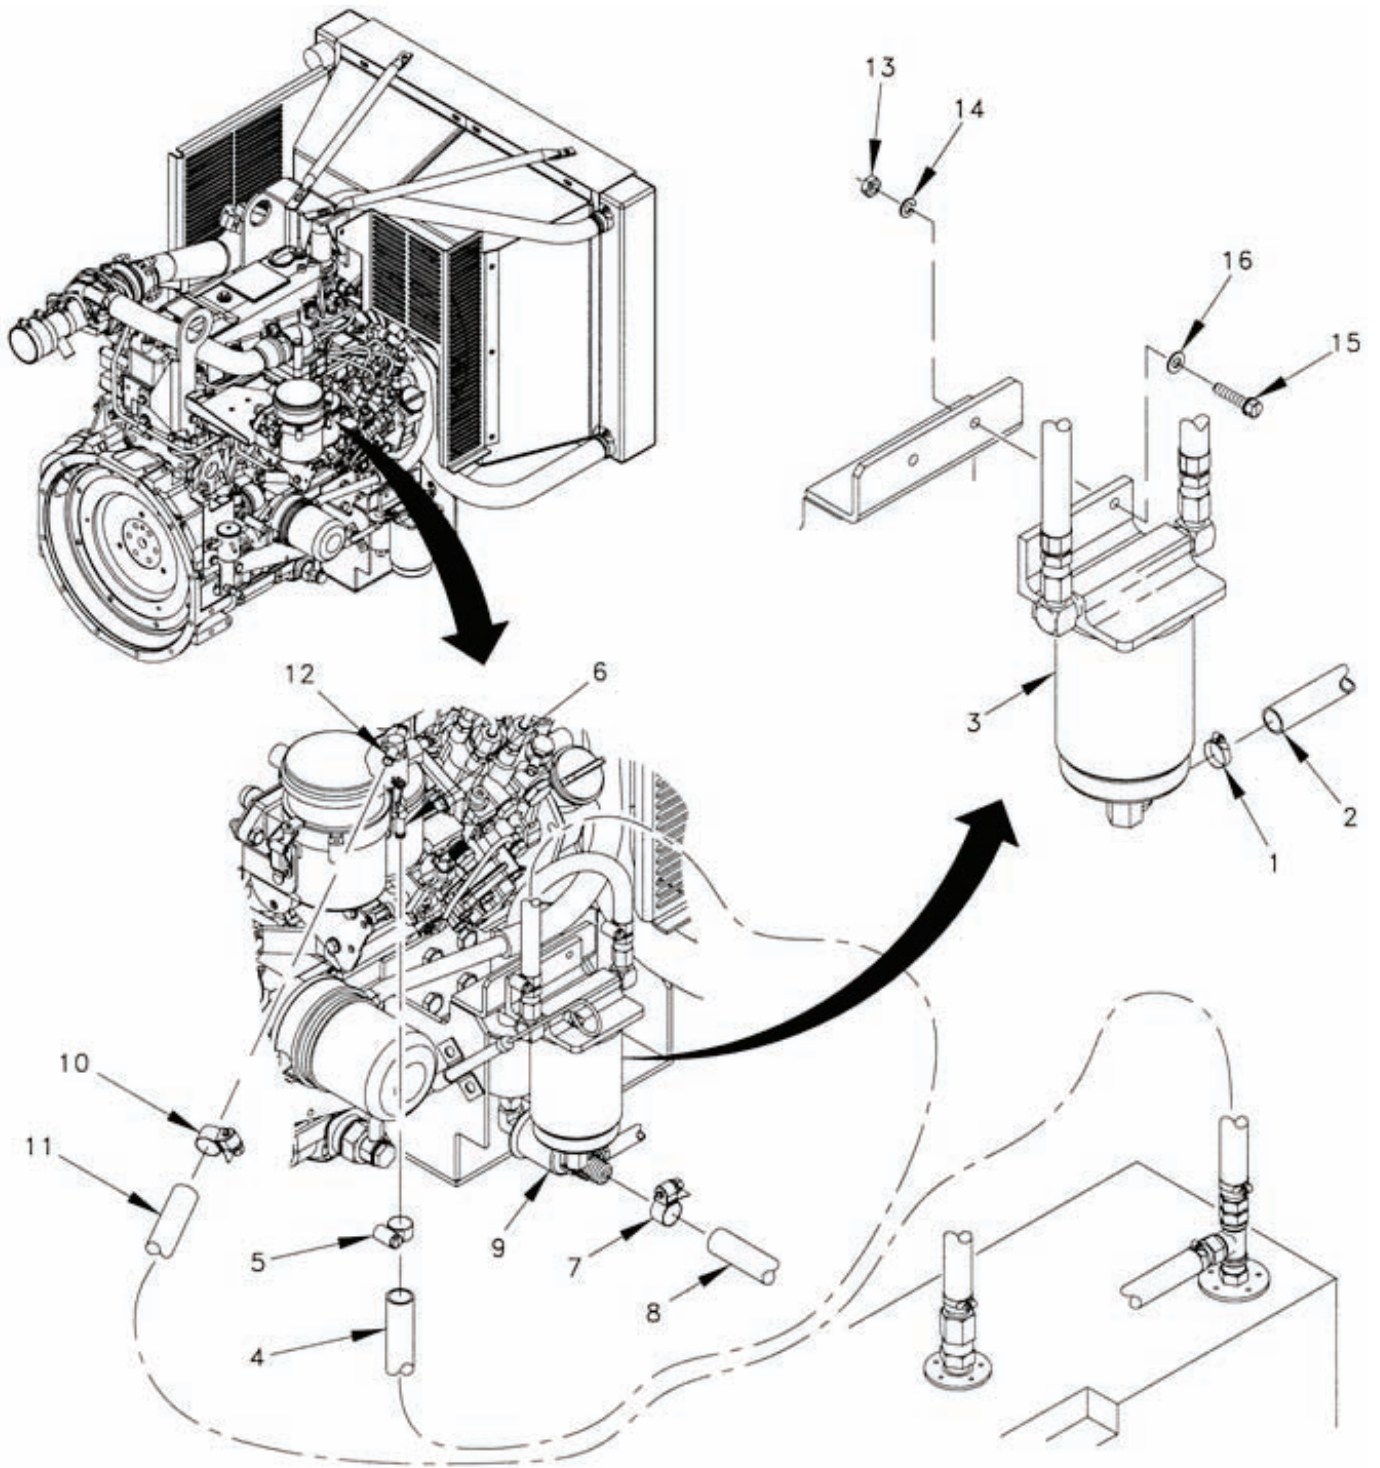
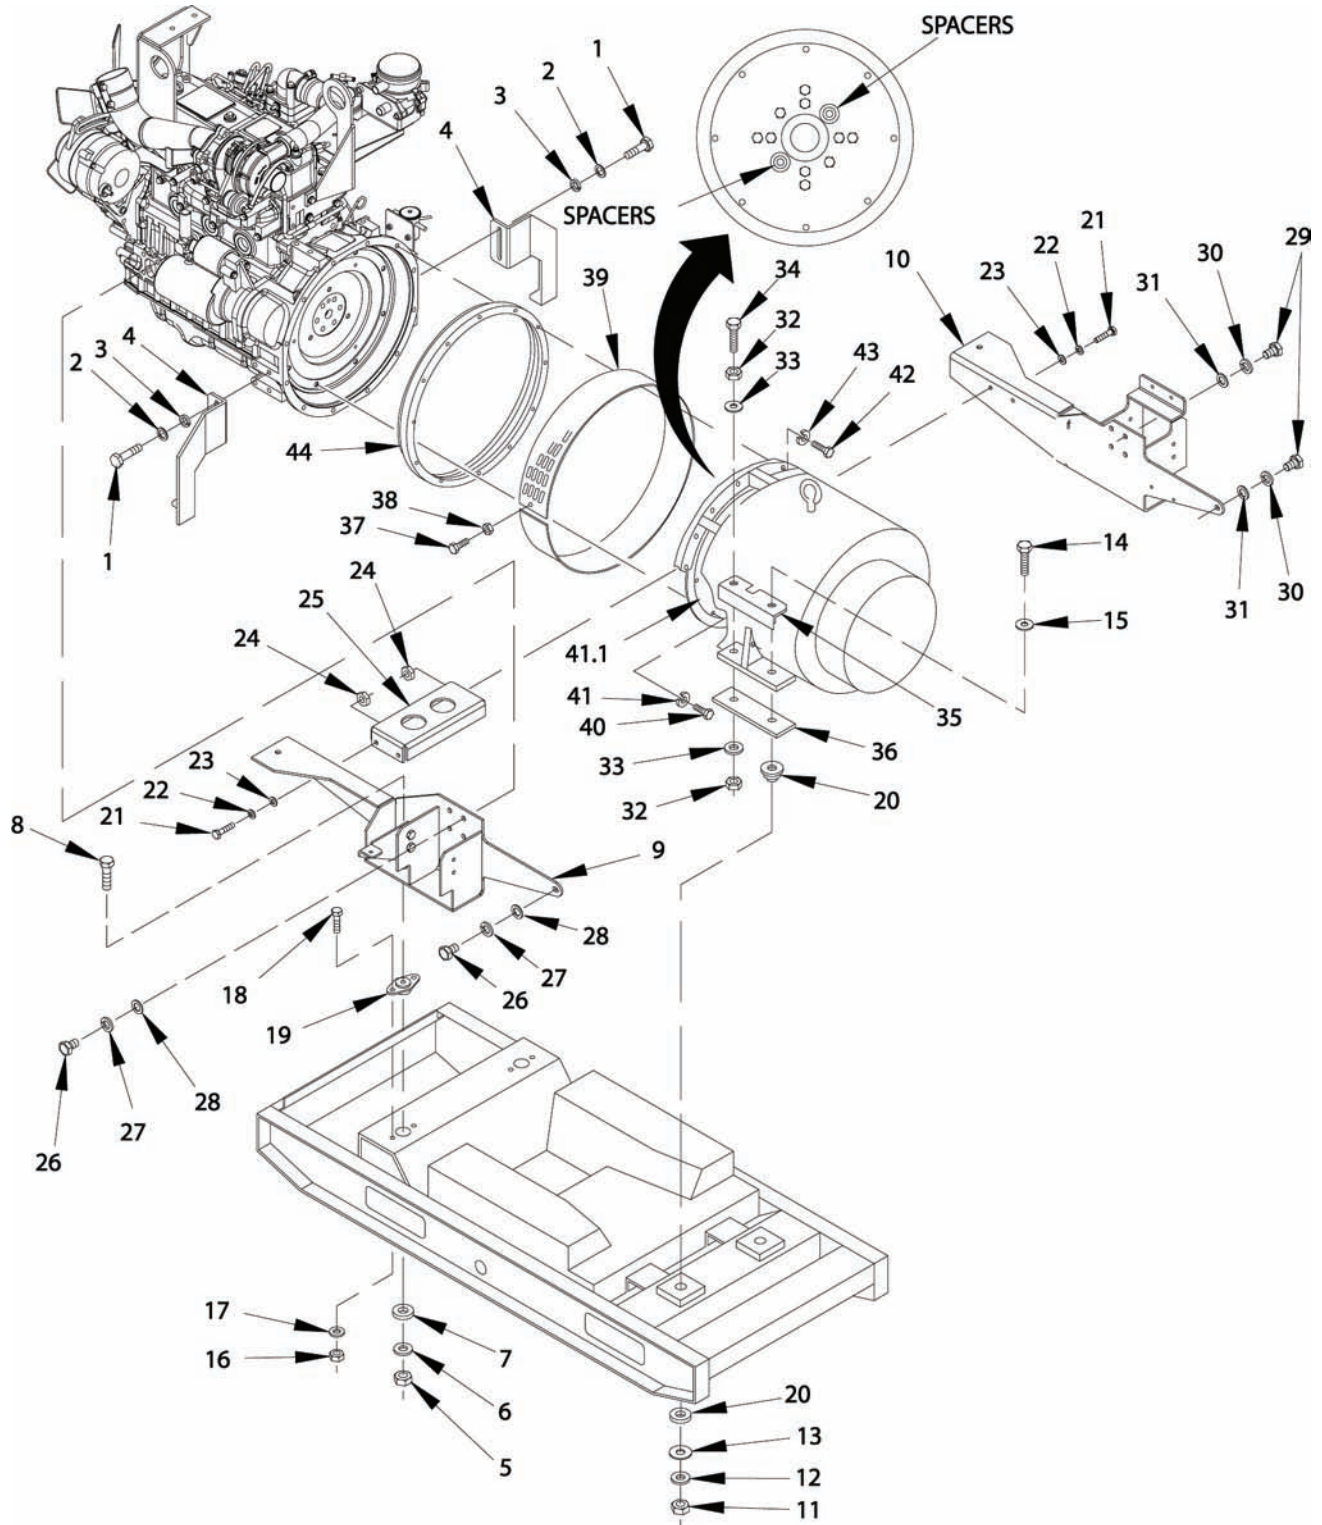

Figure 3-2. Engine Fuel Lines – MEP-804B/MEP-814B.
Figure 3-3. Engine and Generator Assembly – MEP-804B/MEP-814B.
- j. Remove clamp (1, Figure 3-2) and disconnect hose (2) from bottom of fuel/water separator (3).
- k. Remove clamp (5) and disconnect hose (4) from fuel filter (6).
- l. Remove clamp (7) and disconnect hose (8) from fuel filter (9) on fuel pump.
- m. Remove clamp (10) and disconnect hose (11) from fuel return (12) to tank.
- n. Remove bolts (1, Figure 3-3), lock washers (2), washers (3), and rear engine support brackets (4). Discard lock washers (2).
- a. Install right engine support bracket (10, Figure 3-3) on engine with bolts (29), new lock washers (30), and washers (31).
- b. Install left engine support bracket (9) on engine with bolts (26), new lock washers (27), and washers (28).
- c. Install crossmember (25) with bolts (21), new lock washers (22), washers (23), and nuts (24).
- d. Connect hose (4, Figure 3-2) from fuel/water separator (3) to fuel filter (6) and secure with clamp (5).
- e. Install generator mount angles (35, Figure 3-3) and plates (36) with bolts (34), washers (33), and nuts (32). Adjust bolts to where they will not make contact when engine/generator is installed onto skid base. Tighten nuts.
- f. Install engine shock mounts (19) to skid base with nuts (16), washers (17), and bolts (18).
- g. Install shock mounts (20) to skid base.
- j. Install bolts (14), Belleville washers (15), snubbing washers (13), washers (12), and nuts (11) to secure generator to skid base. Torque bolts to 210 ft-lbs (285 Nm).
- k. Install bolts (8), snubbing washers (7), washers (6), and nuts (5) to secure engine to skid base. Torque bolts to 75 ft-lbs (102 Nm).
- l. Install rear engine support brackets (4) with bolts (1), new lock washers (2), and washers (3).
- n. Install hose (8, Figure 3-2) to fuel filter (9) on fuel pump and secure with clamp (7).
- o. Install hose (11) to fuel return (12) (to tank) and secure with clamp (10).
- p. Install hose (2) to bottom of fuel/water separator (3) and secure with clamp (1).